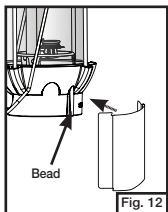

Fig. 12
- Storage position. Reflector snaps to the beads on the back of collar. (Fig. 12 and 13)